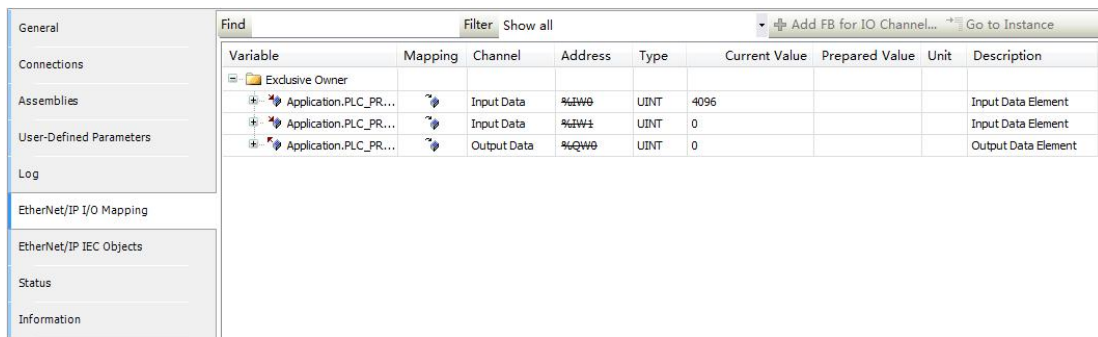

Figure 5-4-21
- Open the EthernetIP I/O mapping table, as shown in Figure 5-4-21.